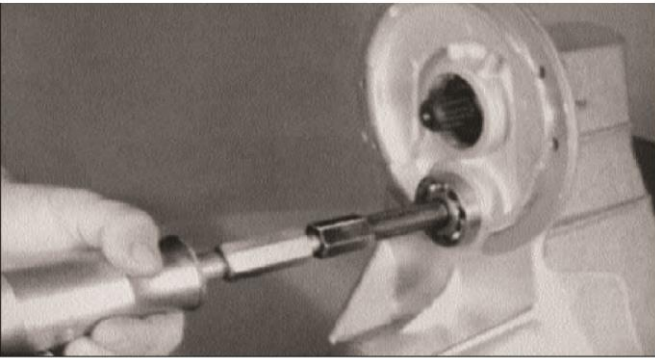

Figure 7-16
intermediate bearing (11) from flange side of housing. See Figure 7-16. 18 Pull input shaft assembly (12) from housing. The input shaft assembly should slide out easily. If resistance is